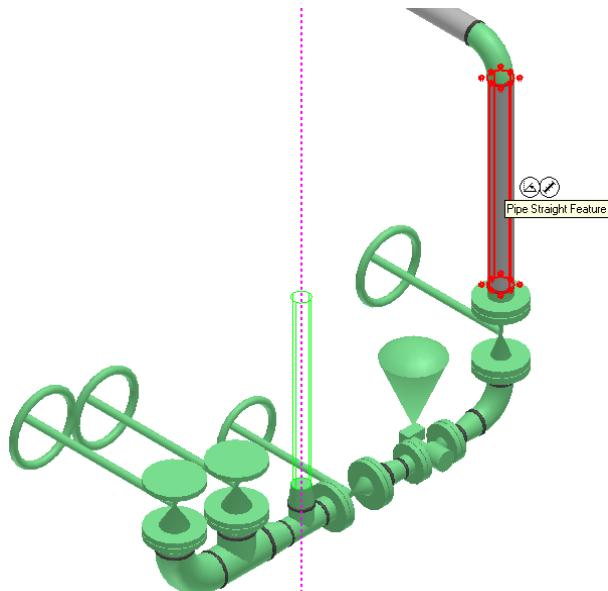

Figure 3.99: Routing a Pipe Straight Feature
57. Route a **Pipe Straight Feature** to the same elevation as the mid point of the vertical straight feature, as shown in Figure 3.99.